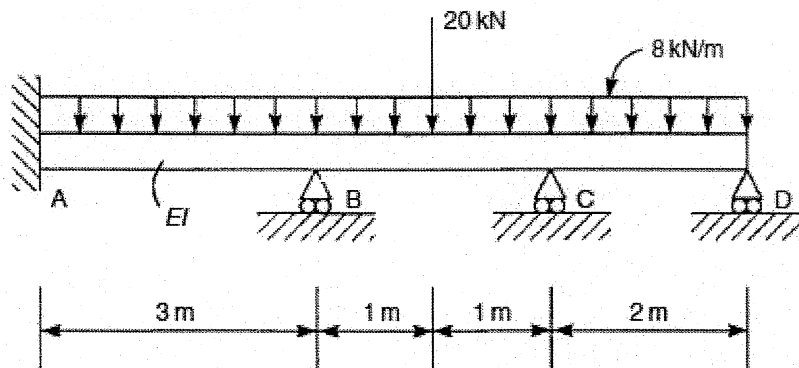

Figure 3
- (b) Analyse the continuous beam shown in Figure 3 below using **Moment Distribution Method** and draw the bending moment diagram. ( $EI = \text{Constant}$ ). (15 Marks)